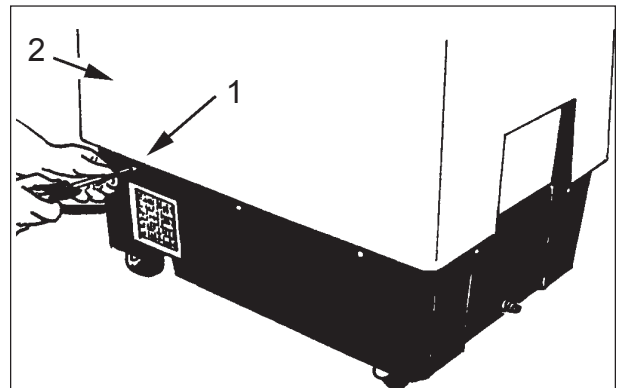

Figure 10
4. Remove the ten screws from the lower housing (1).
5. Lift the upper housing from the machine (2). See figure 10.